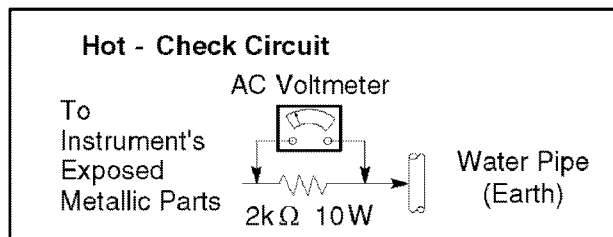

Fig. 3
4. Check each exposed metallic part, and measure the voltage at each point. Fig. 3.
1. Receive a 3.58 MHz NTSC rainbow pattern 2. Connect oscilloscope to A21 pin 6. 3. Set controls: BRT.....CENTER COLOUR.....CENTER CONTRAST....MAX NTSC TINT.....CENTER AI.....OFF	1. Adjust Sub NTSC Tint so that the peak of level of waveform is similar to Fig. 3 2. Receive the Rainbow pattern (3.58 MHz NTSC) on both of Main and Sub pictures. 3. Adjust Sub NTSC Tint 2 so that the peak of level of $1.3 \pm 0.5V$